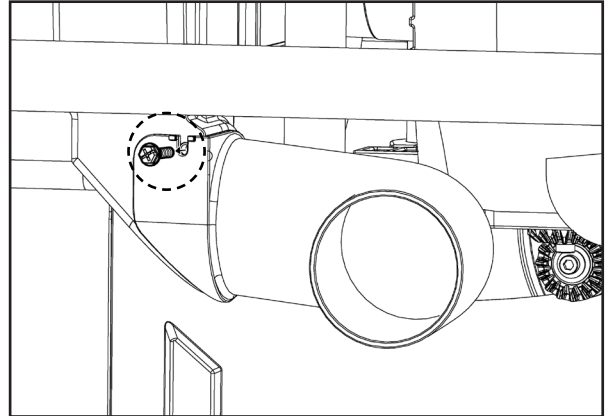

Figure 61
1. Remove the hex screw located in the back of the dust chute, using the supplied 3/16 inch Two-Way Allen Wrench (L Shape) . See Figure 61.